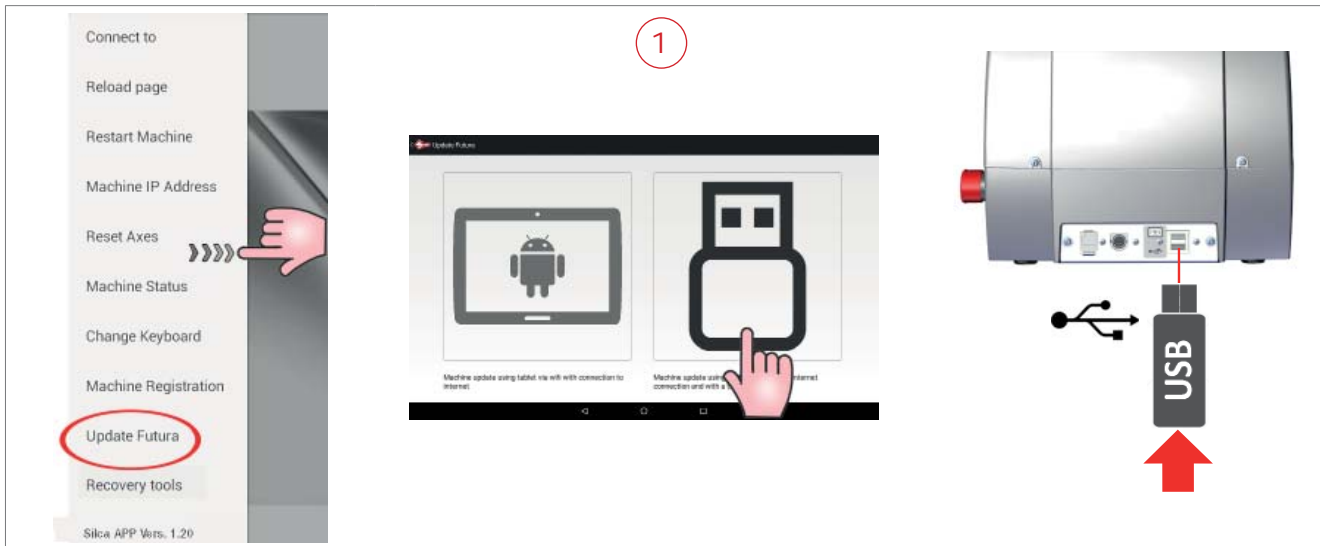

Fig. 13
- 1) Select “Machine update” from the drop-down menu and tap the USB PEN image (Fig. 13). Insert the USB PEN DRIVE into the machine and follow the instructions on the screen.